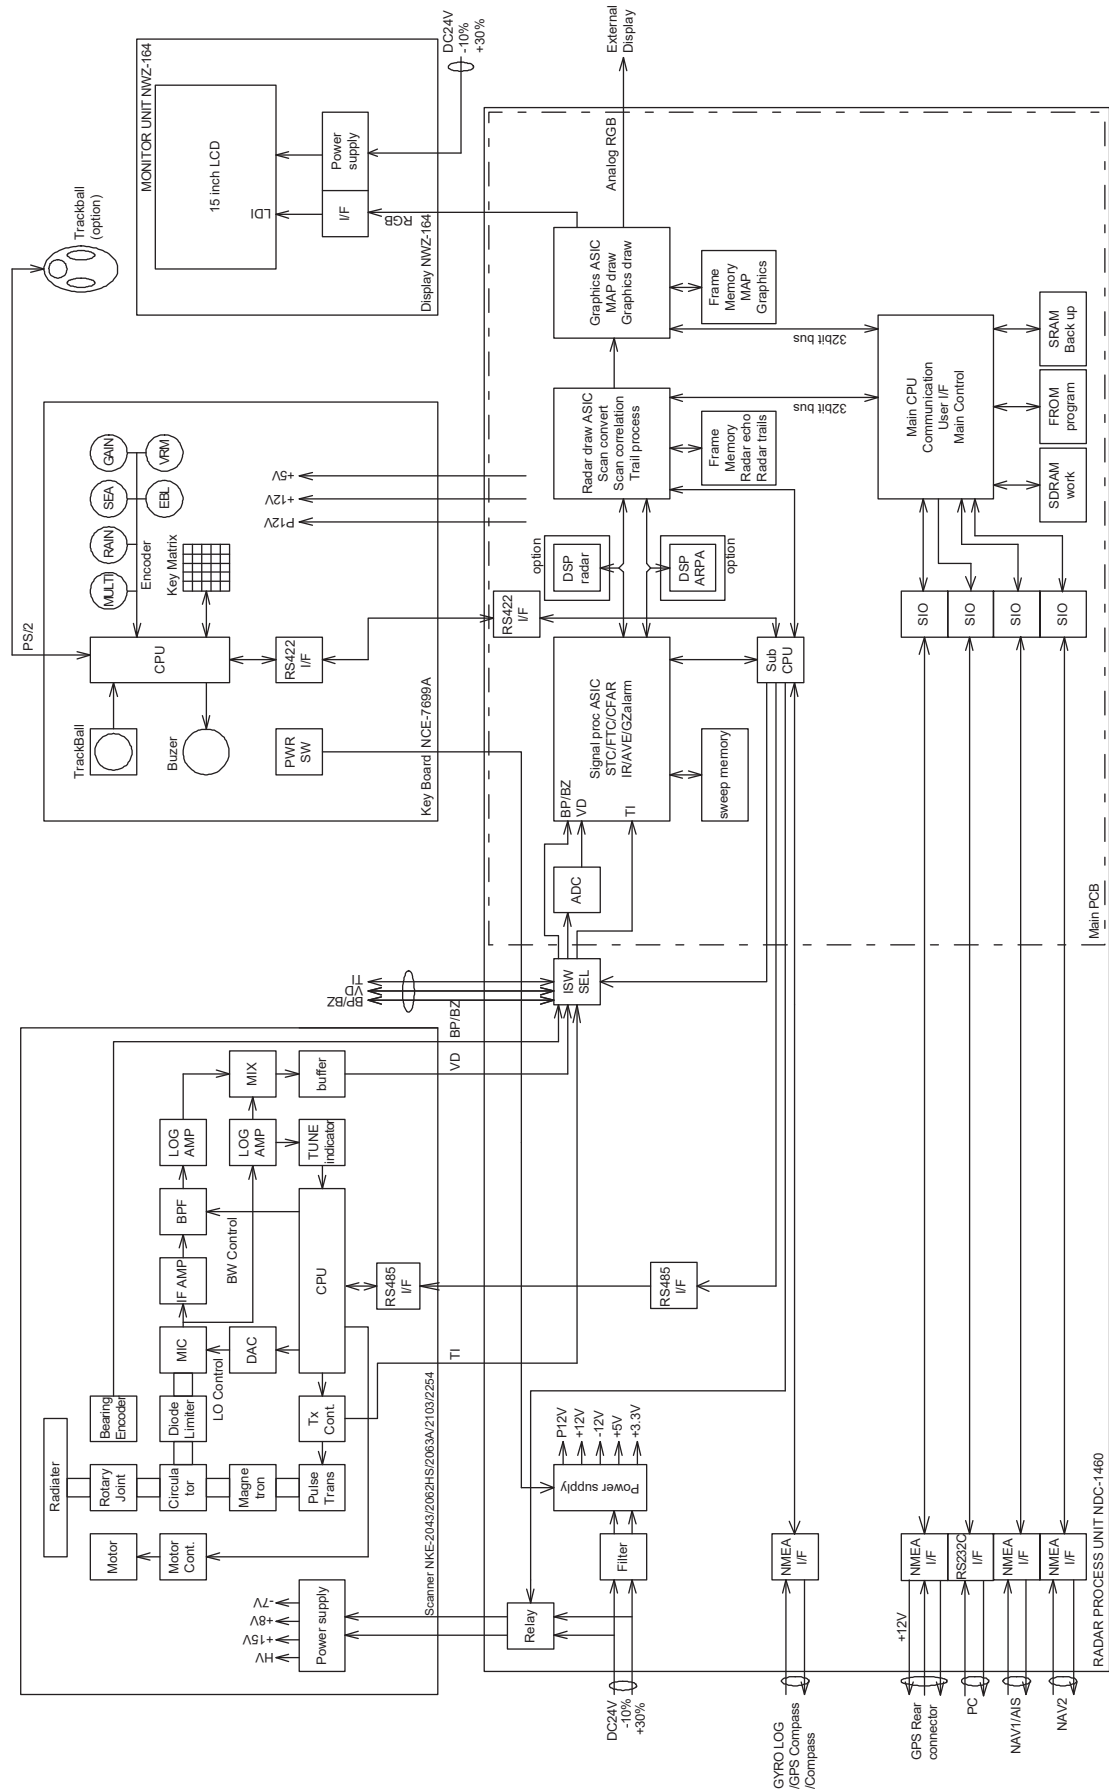

Figure 1 JMA-5204, JMA-5208/HS, JMA-5209, JMA-5212-4/6/4HS/6HS, JMA-5222-7/9 Block Diagram
- FIGURE 1 JMA-5204, JMA-5208/HS, JMA-5209, JMA-5212-4/6/4HS/6HS, JMA-5222-7/9 BLOCK DIAGRAM